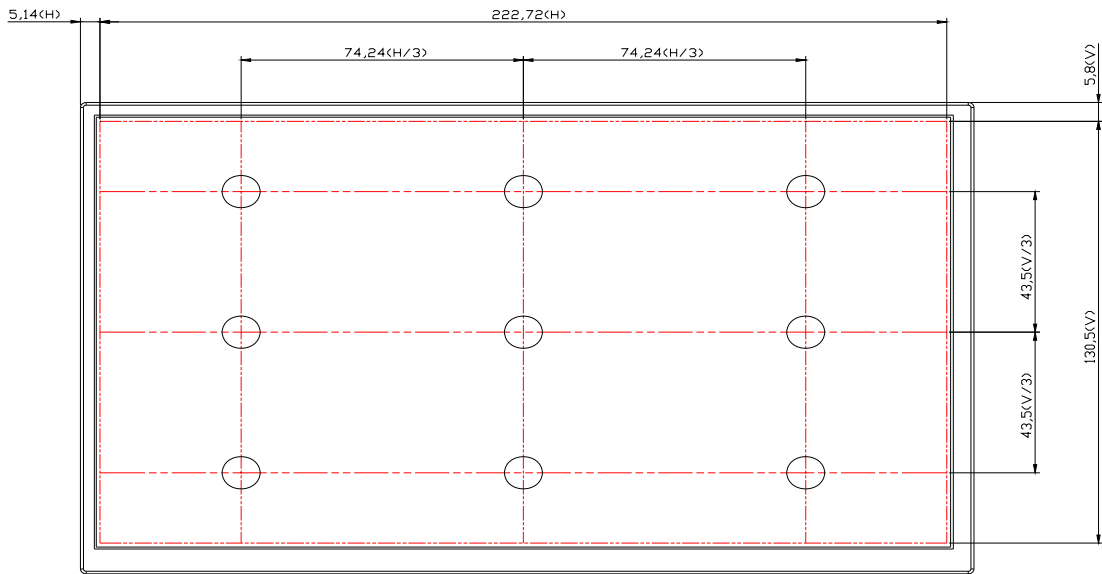

Fig8-1 Measuring point
- 3) Definition of Luminance : Measure white luminance on the point 5 as figure8-1
Definition of Luminance Uniformity: Measure white luminance on the point1~9 as figure8-1